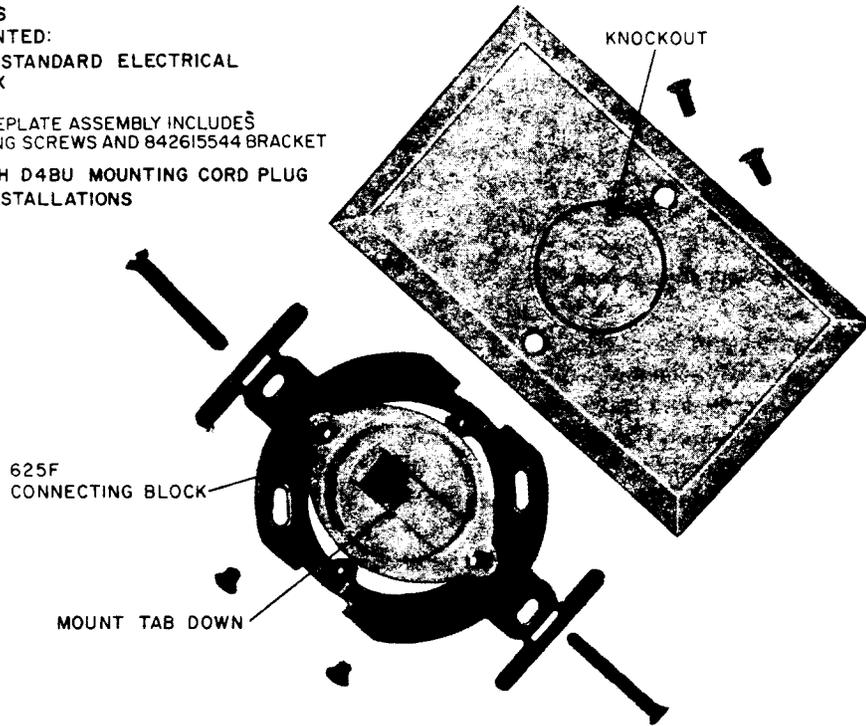

Fig. 2—625B Connecting Block
- Block, Connecting, 625B (Fig. 2)
**B. 625B Connecting Block (Fig. 2)**
**2.04** The 625B connecting block (Fig. 2) is intended for new installations. It consists of a 625F connecting block and 65A faceplate assembly which includes a 842615544 bracket and mounting screws. It is flush mounted. It is available in light olive gray (-49), ivory (-50), and brown (-54).
(b) **Flush-Type:** The jack opening shall be oriented with spring contacts at the top and the tab down as shown in Fig. 2. Locate connecting block where convenient for ease of connecting and disconnecting the miniplug.
**3.03 625B Connecting Block:** Mount the 842615544 bracket (Fig. 2) on a standard electrical outlet box, or 63B prewire bracket using hardware furnished. Feed wiring through the bracket and terminate on screw terminals located on back side of 625F connecting block. Fasten block to bracket. Remove knockout from 65A faceplate. Fasten faceplate to bracket to complete installation. The 625B connecting block can also be used with the 63B bracket or KS-20502L2 bracket.